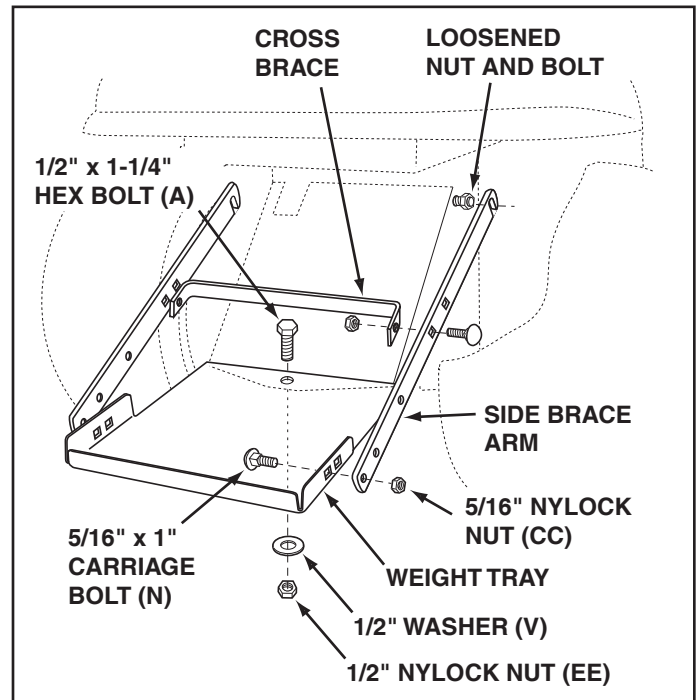

**FIGURE 20**
**STEP 20: (SEE FIGURE 20)**
- Attach the rear of the clutch/idler assembly to the tractor frame by sliding the notched arms of the assembly onto the shoulder bolts assembled to the frame brackets. Lift the front of the assembly, positioning the upper idler pulley so that it clears the engine pulley. Attach the front of the assembly to the hanger brackets using two pivot lock pins (MM) and two hairpin cotter (KK).